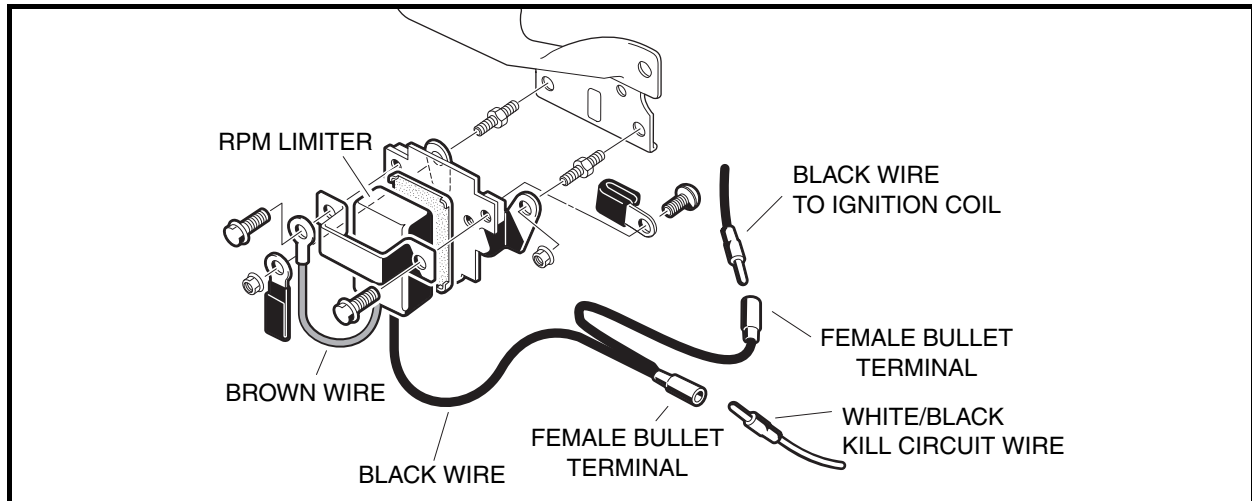

Figure 11-25 RPM Limiter
3. Disconnect both of the bullet terminals (**Figure 11-25, Page 11-25**).
- 3.1. Disconnect both of the bullet terminals at the RPM limiter (**Figure 11-25, Page 11-25**). Place the red (+) probe of the meter on the male bullet terminal of the wire connecting to the ignition coil under the fan housing, and place the black (-) probe on a clean unpainted surface of the engine or frame (**Figure 11-26, Page 11-25**).